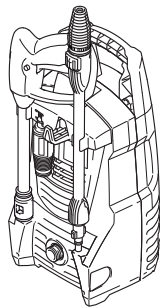

Fig. 31
6. Store the accessories on the back and in the storage compartment of the product (Fig. 31).